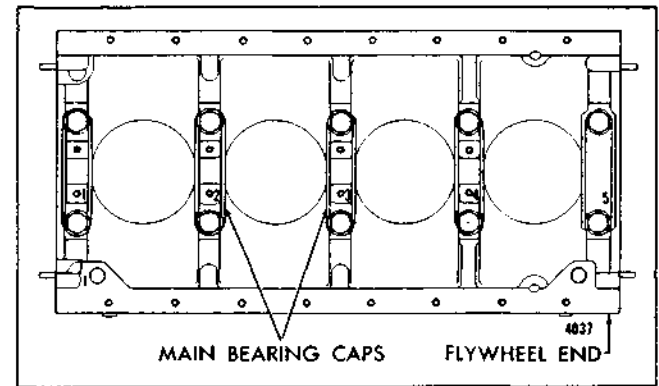

Fig. 14 - Typical Cylinder Block Markings
**NOTE:** Bearing caps are numbered to correspond with their respective positions in the cylinder block. It is imperative that the bearing caps are reinstalled in their original positions to maintain the main bearing bore alignment. The number of the front main bearing cap is also stamped on the face of the oil pan mounting flange of the cylinder block, adjacent to its permanent location in the engine as established at the time of manufacture. The No. 1 main bearing cap is always located at the end opposite the flywheel end of the cylinder block (Fig. 14).
2. If a new service replacement block is used, stamp the engine serial number and model number on the upper rear corner of the In-Line block or the top right-hand corner of the V-type block. Also stamp the position numbers on the main bearing caps (Fig. 14) and the position of the No. 1 bearing on the oil pan mounting flange of the block.